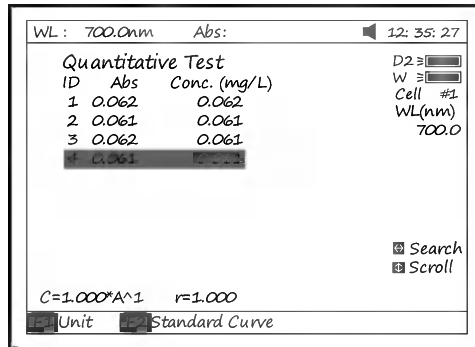

Fig 38
- 4.2** Pull the sample cuvette into Main Light Path, press the key **【START】**, the results will be displayed on the screen (Fig 38).